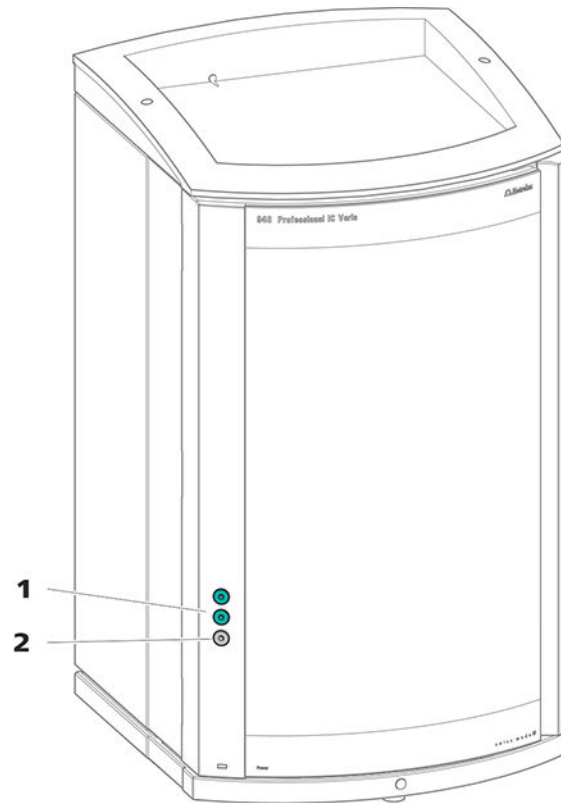

Figure 3 Feed-throughs on the door
- Openings on the door (*see figure 3, page 15*)